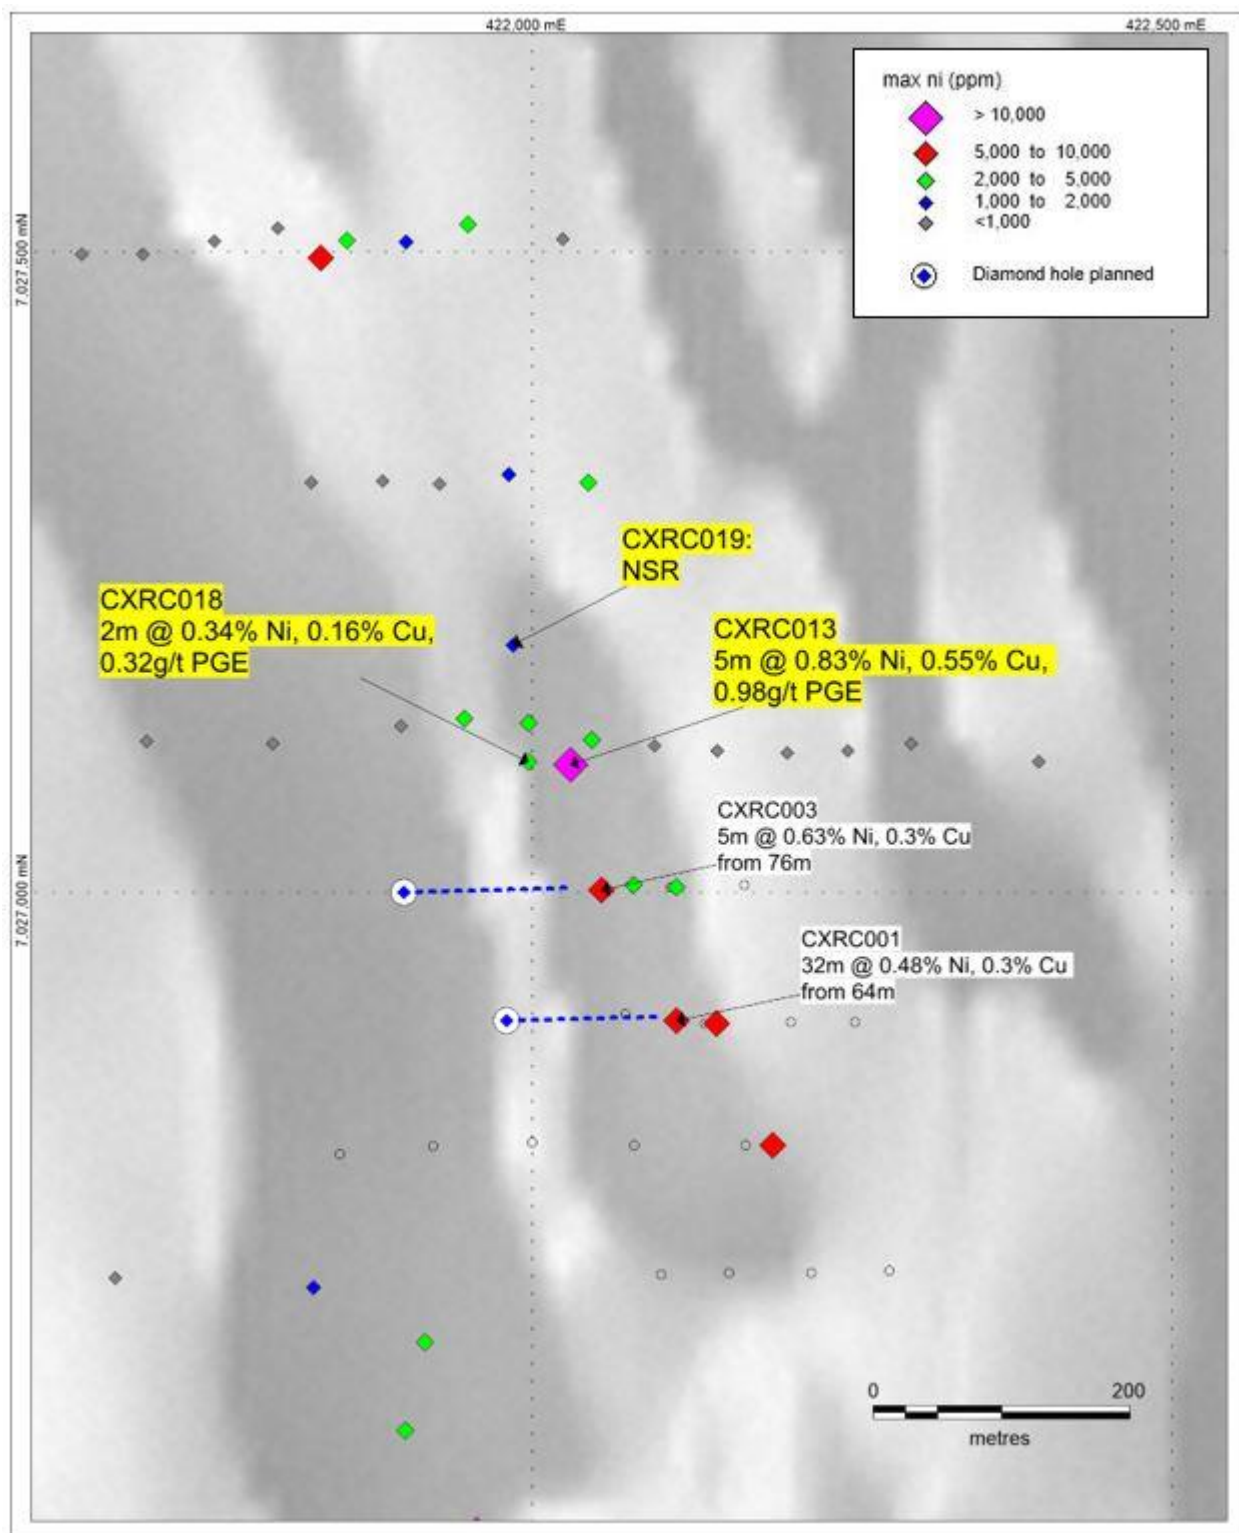

Figure 2: Drill Plan – Olympia North
- To test aircore anomalies at the Troy, Troy South, Beta Sill and Olympia North prospects (Figures 2 & 3), and